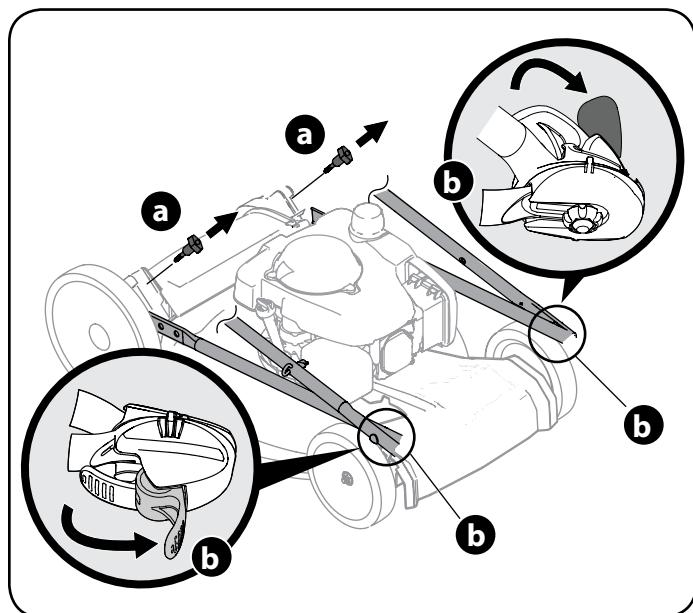

Figure 1
- a. Remove the T-bolts from the handle brackets as shown in Figure 1.
- b. If necessary, place the release levers in the unlocked positions. See Figure 1.